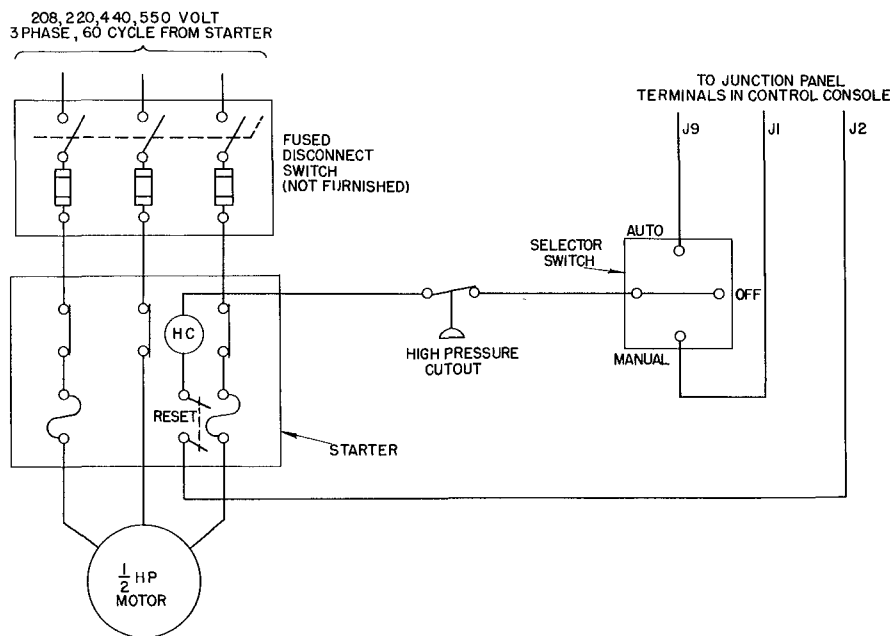

Fig. 5-6 - Purge Starter Wiring Diagram
- *37. "O" ring gasket for item 36.
- *39. "O" ring gasket for item 38.
47. Starter - See Fig. 5-6
The purge is equipped with a 3-way switch - "Automatic - Off - Manual" illustrated in Fig. 5-6. In the "Automatic" position the purge will operate any time the centrifugal machine operates. In the "Manual" position it will operate at all times. The "Off" position permits shutdown for service.